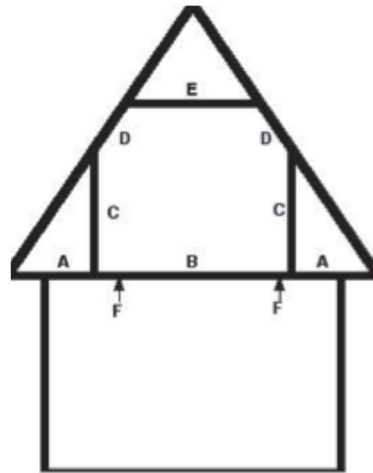

Figure 3-5.
One of the most challenging air barrier issues comes with “Cape Cod” style homes as shown in Figure 3-5. In these 1-1/2 story homes, it is not uncommon for there to be relatively free communication of air from the attic spaces (A and E) into the vaulted ceilings and knee walls of the upper floor (D and C respectively), and through them, the floor of the upper floor (B). In a cold weather area in the winter, the upper story B floor often feels cold. This space is between the upper and lower floors and should be warm. However, because of air leakage from the attic space all the way down into the floor space of the upper floor, it feels cold.